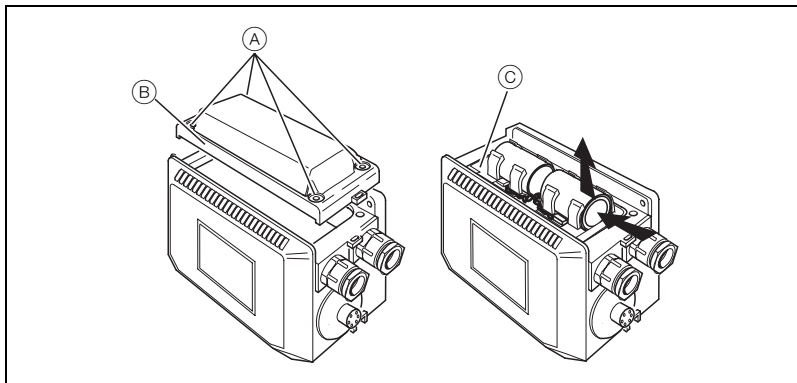

Fig. 3.7 Removing the AquaMaster Cover
2. Disconnect and withdraw the sensor cable (A).
3. Remove and discard the gland (B).
4. Feed the socket lead into the AquaMaster and fit the socket (MGFA0609-S) (C).
5. Connect the sensor cable (D).
6. Replace the covers – see Fig. 3.7, page 12.
2. Disconnect and withdraw the pulsed output cable (A).
4. Feed the socket lead into the AquaMaster and fit the socket (MGFA0609-O) (C).